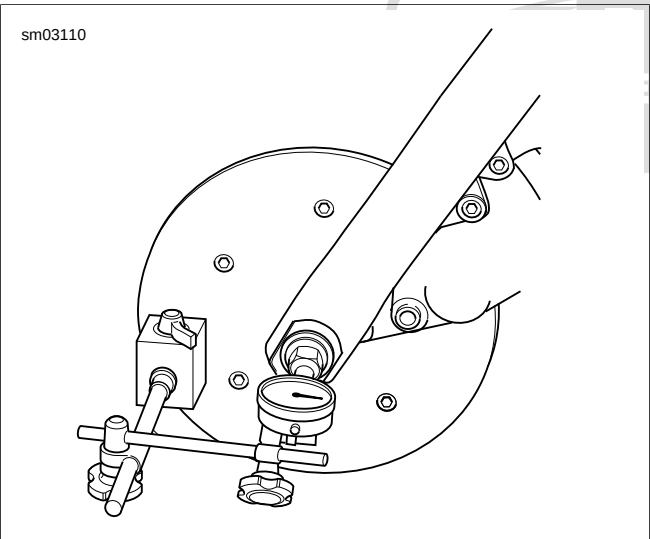

Figure 2-66. Measuring Lateral End Play (Front Wheel) (typical)
2. See Figure 2-66. Mount a magnetic base dial indicator to brake disc with dial's contact point on end of axle.